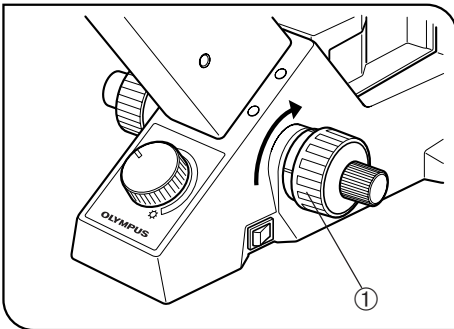

Fig. 28
**4 Mounting the Objectives** (Figs. 28 & 29)
1. Turn the coarse adjustment knob ① towards the back until the revolving nosepiece is set at its lower limit. (Fig. 28)